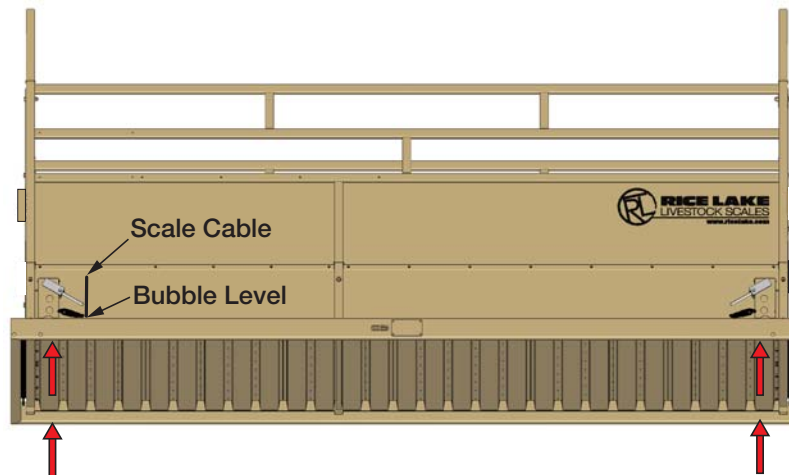

Figure 2-1. Shim/Load Cell Stand Locations
In all installations, the scale must be level to ensure proper operation. All *MAS-P* Animal Scales are equipped with a bubble level (located on top the base frame – see Figure 2-1). Ensure the bubble is fully inside the circle marked on the top of the level.
Rice Lake Weighing Systems recommends a concrete foundation (piles or piers) for permanent installations. The foundation must be able to support the gross weight of the scale (scale dead weight plus scale capacity), and the piles or piers must be situated directly under the load cell stands (see shimming location in Figure 2-1). The foundation must not be subject to distortion or motion due to frost action. A qualified local professional should be consulted to recommend the proper size of foundation for the location. Foundation dimensional requirements are available from the dealer or Rice Lake Weighing Systems. Requirements may vary from one Weights and Measures jurisdiction to another, please contact the local office.
2. Inspect all four corners of the scale. Although the scale will weigh properly up to four degrees off level, individual corners of the scale should not be allowed to teeter. If any of the corners are not contacting the ground, place shims directly under the base frame, under the load cell stands, to prevent teetering (see Figure 2-1).
3. Plug the indicator into the scale cable. The scale cable runs from the junction box (inside the base frame) to the indicator (see Figure 2-1).